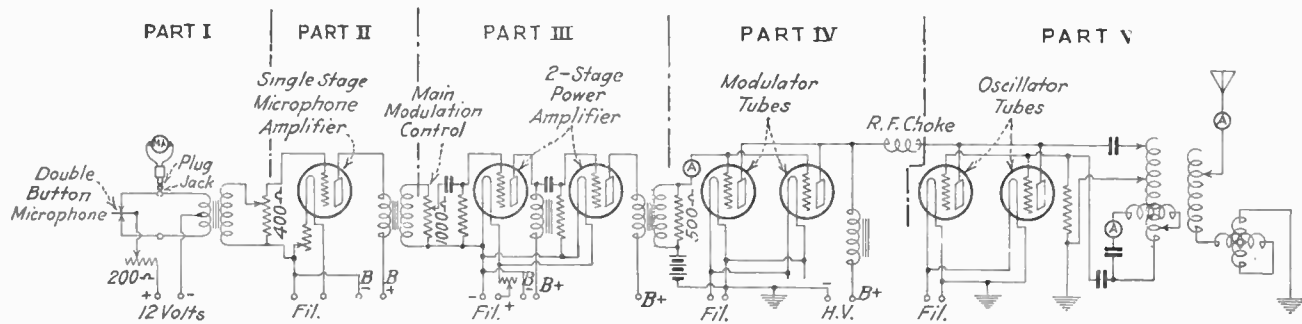

FIG. 81.—Simplified schematic wiring diagram of a broadcast transmitter.
*Ans.* Figure 81 illustrates a schematic wiring diagram of a complete broadcast transmitter, including a double-button carbon microphone, single-stage microphone amplifier, two-stage power amplifier, and the Heising system of modulation.